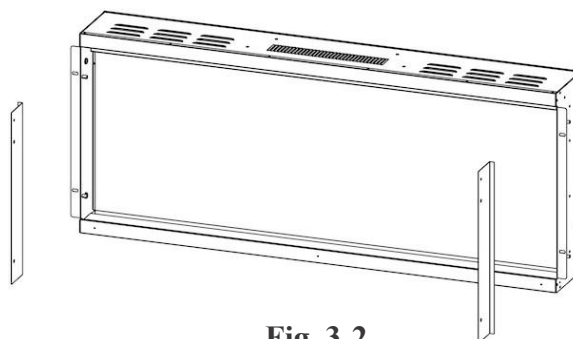

Fig. 3-2
- B. Carefully remove the side plates from the fireplace. (Fig. 3-2)